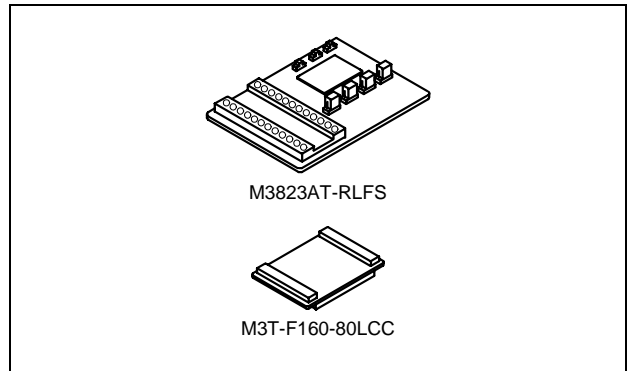

Figure 1 Package components of the M3823AT-RLFS
2. Package Components (See Figure 1)